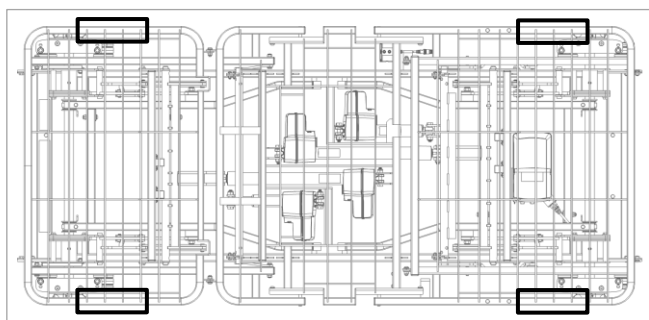
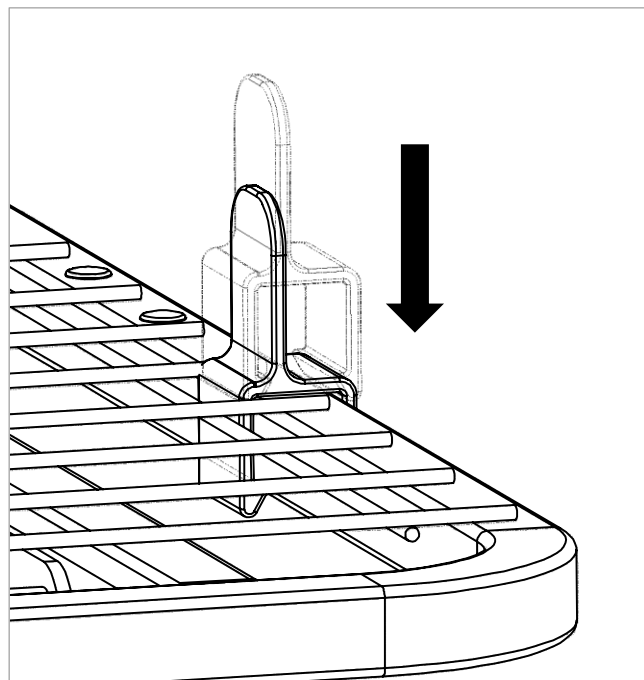

Figure 8.8
Figure 8.9
16. Install the four mattress guides as shown in Figure 8.9 (note the orientation) in the locations shown in Figure 8.8. They may be fitted in any position within the locations shown.